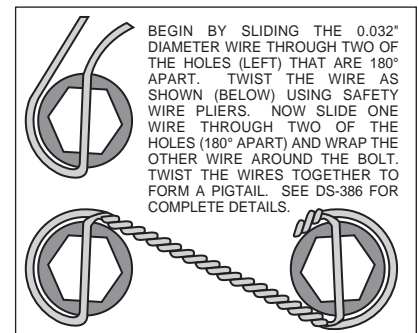

Figure 3. Safety Wire Diagram
- The caliper mount bracket assembly (1) should be installed first with clean, dry threads on the mounting bolts. Install the bracket from the rear side of the spindle by sliding the upper mounting bolt (2) through lock washer (3), flat washer (4), and through the upright into the upper bolt hole on the caliper mounting bracket (1). Attach the lower portion of the bracket (1) from the backside on the caliper mounting bracket by sliding bolt (5) through lock washer (6), flat washer (7) and into the lower hole on the backside of the spindle face plate. The bracket must tighten squarely against the inboard side of the spindle face plate/upright. Inspect for interference from casting irregularities, machining ridges, burrs, etc. If everything fits correctly, then remove the mounting bolts (2 and 5) and coat threads with red *Loctite*® 271 and reinstall. Torque bolt (2) to 65 ft-lbs., and bolt (5) to 42 ft-lbs.
- Install wheel studs (8) into the hub (9). Torque to 77 ft-lb. **NOTE:** There are two lug patterns of five holes each in the hub (5 x 4.50 and 5 x 4.75). Make sure of the correct hole pattern for the wheel application before installing the studs into the hub.
- Pack the large inner bearing cone (10) with high temperature disc brake bearing grease (available from your local auto parts store) and install into the backside of the hub (9).
- Install the grease seal (11) into the backside of the hub (9).
- Pack the small outer bearing cone (17) with high temperature disc brake bearing grease and install into front side of the hub (9). Slide the hub assembly (9, 10, 11 and 17) onto the spindle. Secure using spindle washer (18), stock adjusting nut, and nut locking device. Adjust wheel bearing pre-load per Original Equipment Manufacturer (OEM) specifications.
- Install the O-ring (20) and the dust cap (19) into the hub (9). **NOTE:** O-ring (20) friction will not allow cap (19) to unscrew on its own.
- With the larger I.D. side of the rotor (12) facing away from the hat (13), bolt rotor (12) to hat (13) through the backside of the rotor using washers (14) and bolts (15). Torque bolts (15) in an alternating sequence to 85 **in-lb**. Safety wire bolts (15) using standard 0.032 inch diameter stainless steel safety wire as shown in Figure 3. Please refer to Wilwood's data sheet DS-386 (available at www.wilwood.com/pdf/ds386.pdf) for complete safety wire installation instructions.
- Slide the rotor/hat assembly over the studs (8) in the hub (9) taking care to align the small countersunk holes in the hat (13) with the small threaded holes in the hub (9). Install three flat head socket head screws (16) through the small holes in the hat (13) and torque to 85 **in-lb**. Check to be sure the hat seats squarely against the spindle.
- Install one washer spacer (25) and one washer (26) over each pre-installed stud (24) on the radial mount bracket (1). Slide the caliper (21) in place over the studs and rotors, then install the washer (23) and lock nut (22) to hold the caliper in place. The caliper bleed screws should be pointing up.
- Remove the caliper center bridge pad retainer bolt, nut, and tube from the caliper. Slide the brake pads (27) into place. They should install easily without interference. Check that the outside radius of the brake pad is aligned with the outside diameter radius of the rotor face. Add or subtract shims (26) between the caliper and mount bracket to gain the proper alignment. Lubricate caliper mounting studs and nuts with lightweight oil, reinstall the caliper and torque the caliper nuts (22) to 30-35 ft-lb. Reinstall the center bridge pad retainer tube, bolt, and locknut. The locknut should be snug without play in the bolt or tube. Be cautious not to over tighten.